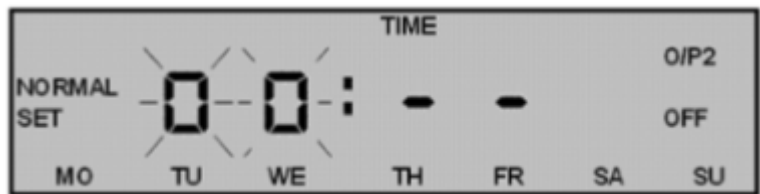

Figure 8 - Set
- 2.7 Press the SET button once, the Monday to Sunday continues to flash now press the SET button again (Figure 8).